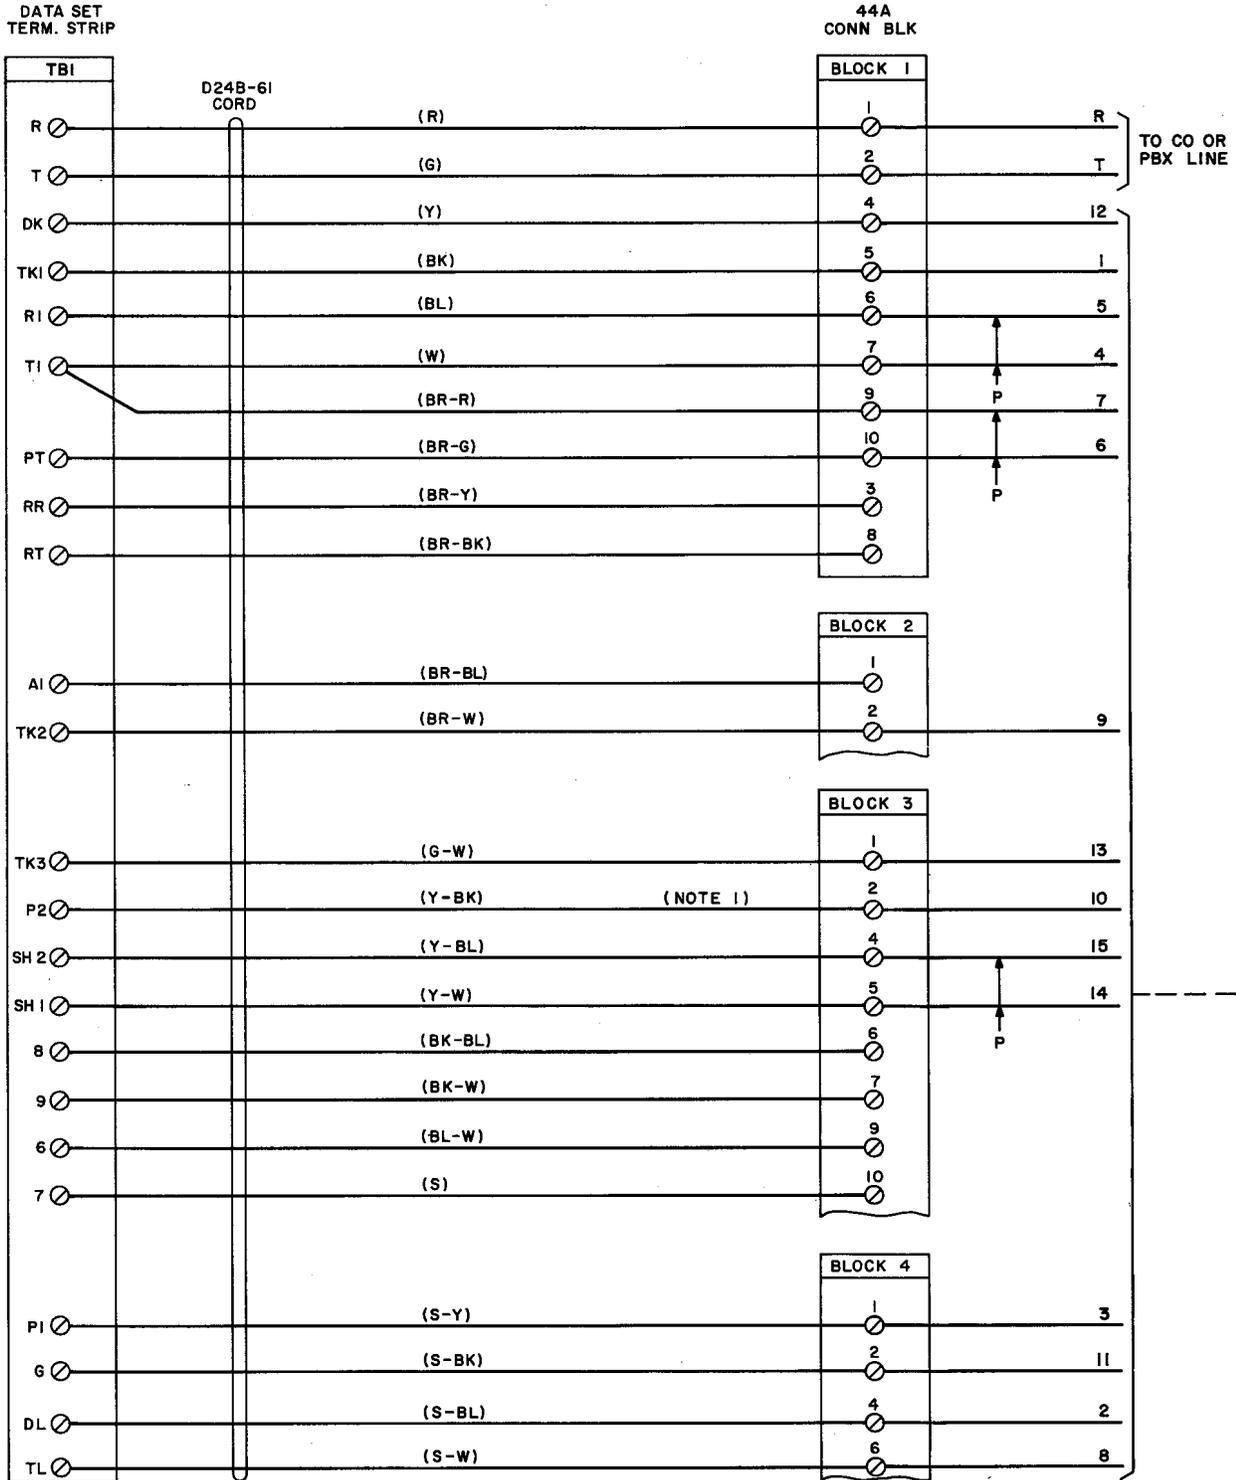
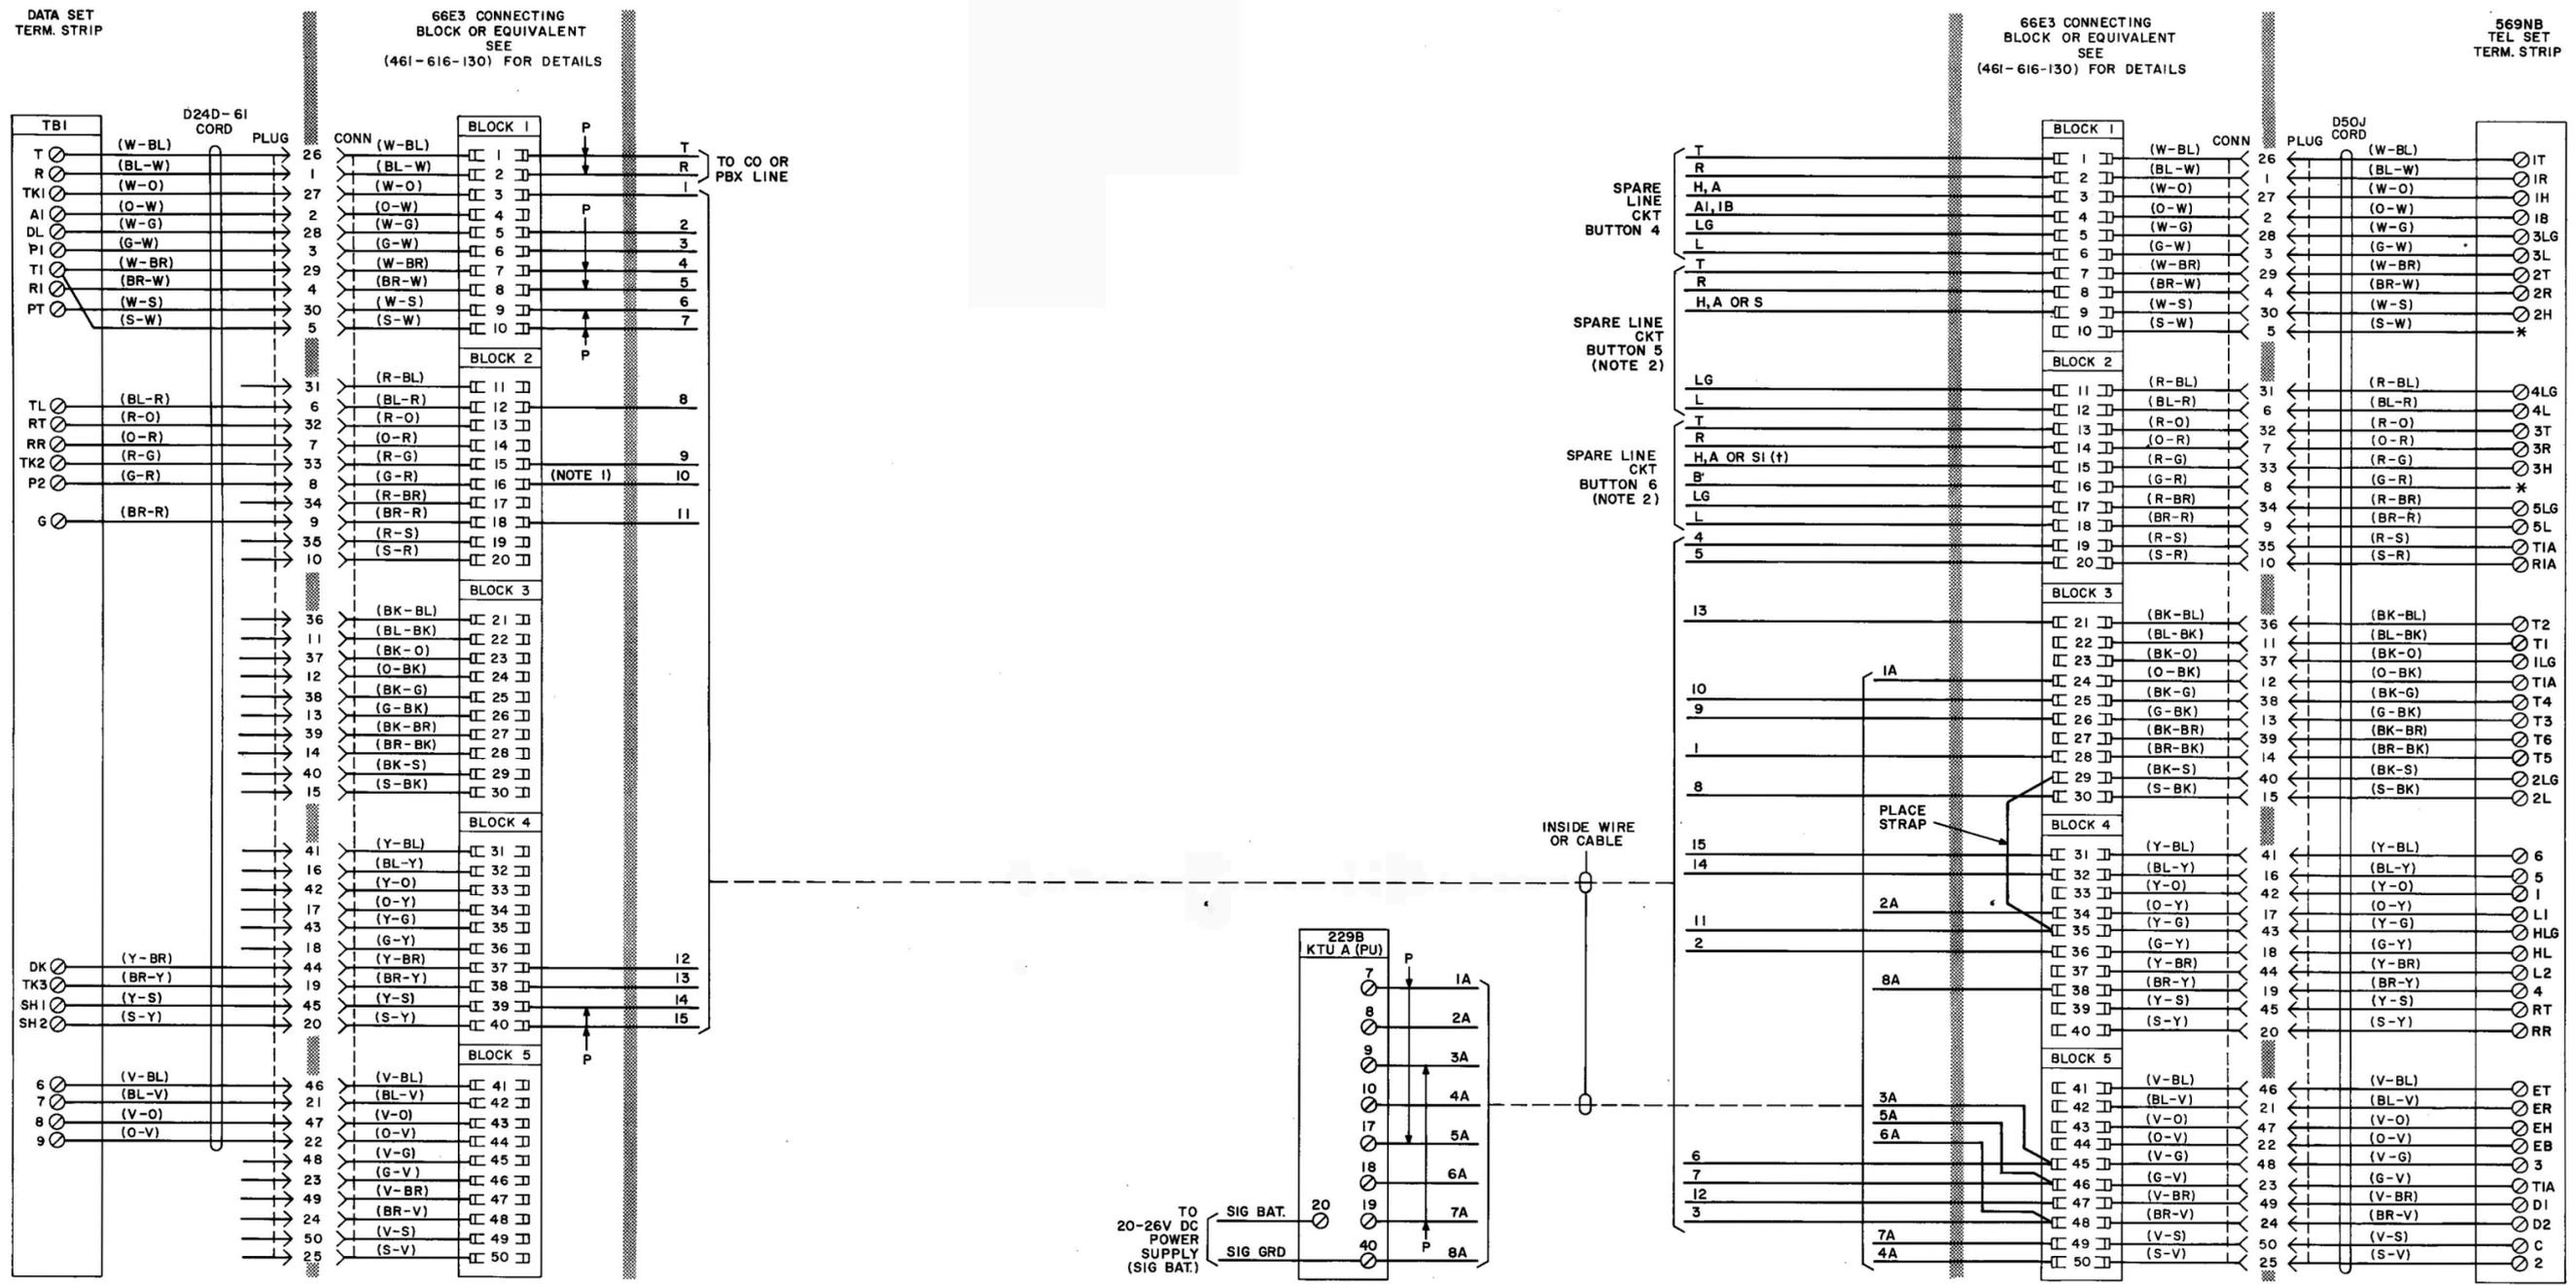

Fig. 6 — Data Set 202B Equipped With D24B-61 Cord For Fig. 7
Fig. 7—Interconnections For Data Set 202B Equipped With D24D-61 Cord and 569NB Telephone Set Used With 1A or 1A1 Key Telephone System
- (e) Fig. 6 — Data Set 202B Equipped With D24B-61 Cord (Overlay for Fig. 7).
- (f) Fig. 7 — Interconnections for Data Set 202B Equipped With D24D-61 Cord and 569NB Telephone Set Used With 1A or 1A1 Key Telephone System.